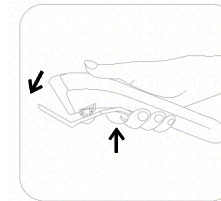

Fig. 18
- Hold the steam brush, open the splint. Fig.18.